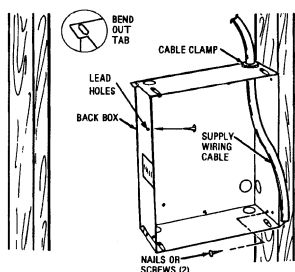

Figure 1
1. Determine which side of the back box is to be mounted against a stud and bend the tabs at the rear corners out 90 degrees so that the back box will be square with the stud after installation. (See Figure 1).
3. Position back box against side of studs and secure using nails or screws as shown in Figure 1.
**NOTE:** Lead holes for a #8 sheet metal screw have been provided in the sides of the back box. After the finished wall has been put up, drive a # 8 (m4) sheet metal screw (recommended 1" long) through the side of the box not mounted to the stud. This will prevent the back box from pulling out when installing the heater assembly. (See Figure 1)